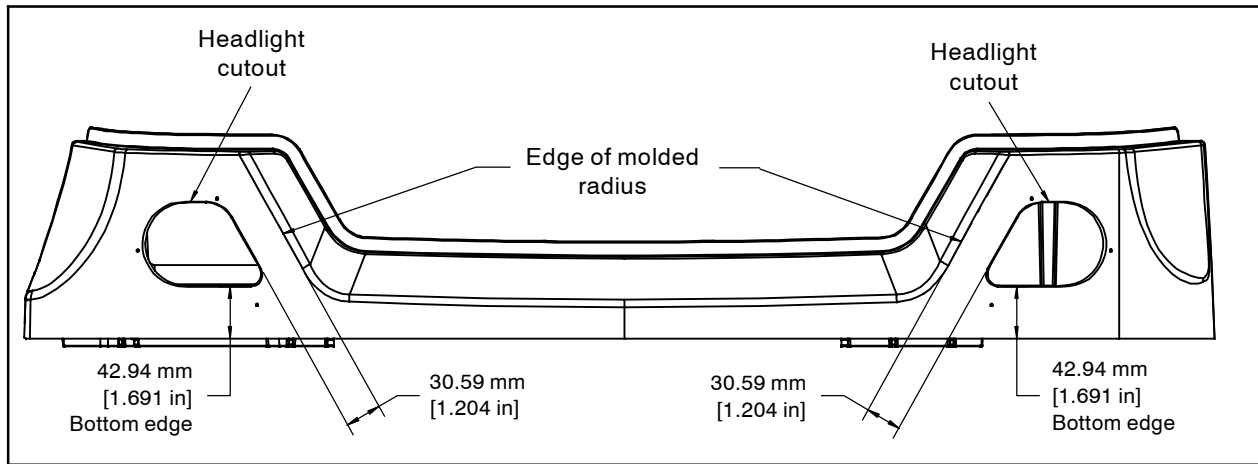

FIG. 1
1. Tape both headlight bezel templates (9) onto the front platform. (Fig. 1 / Fig. 2)
2. Cut the holes for both headlights into the front platform. (Fig. 1 / Fig. 2 / Fig. 3)